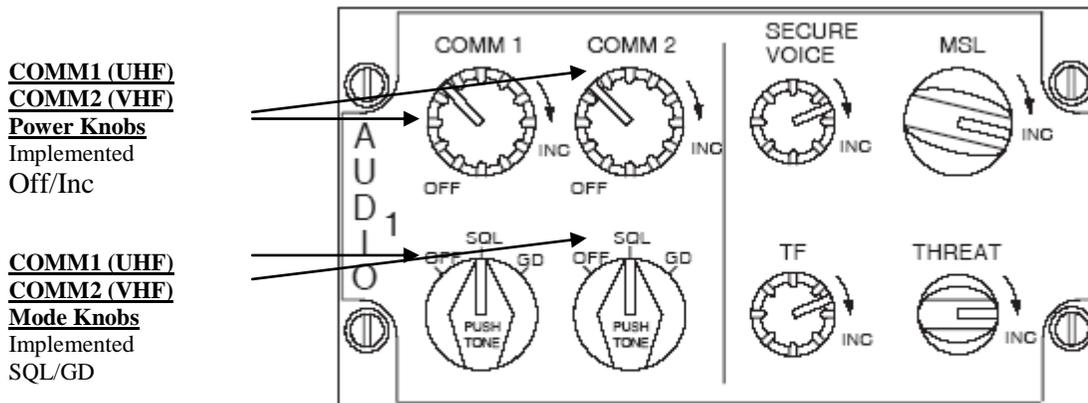
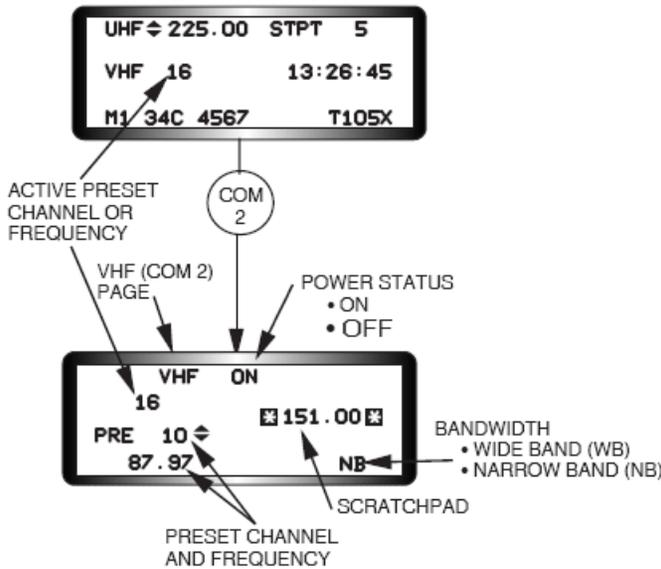

Figure 1-44 Audio 1 Panel
Figure 1-47 COM 2 DED Page
The AUDIO 1 Panel (Figure 1-44) provides power to the radios and controls other less frequently used communications and audio functions. The COMM 1 switch controls UHF radio power and volume. Rotating the switch clockwise out of the OFF position applies power to the radio and increases UHF radio volume. The 3-position rotary knob directly below the COMM 1 switch disables the auxiliary guard receiver, and automatically tunes the main receiver and transmitter to guard frequency in Guard (GD). Only 2-positions are implemented—SQL (squelch) and GD. SQL is the normal position.
Normal VHF radio control is very similar to the UHF radio. The VHF DED page (Figure 1-47) is accessed by depressing the COM 2 override button on the ICP. Data entry procedures for changing manual or preset frequencies are the same as UHF. Except as noted below, the COM 2 portion of the AUDIO 1 Panel (Figure 1-44) and the UFC serve the same control functions for the VHF radio as COM 1 does for UHF.